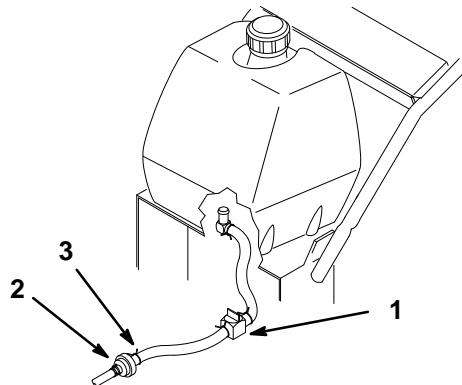

Figure 41
2. Close the fuel shut-off valve in fuel line (Fig. 41).
3. Squeeze the ends of the hose clamp together and slide it up the fuel line away from fuel filter (Fig. 41).
4. Pull the fuel line off the fuel filter (Fig. 41). Open fuel shut-off valve and allow gasoline to drain into a gas can or drain pan.
2. Close fuel shut-off valve (Fig. 41).
6. Open fuel shut-off valve at fuel tank (Fig. 41).